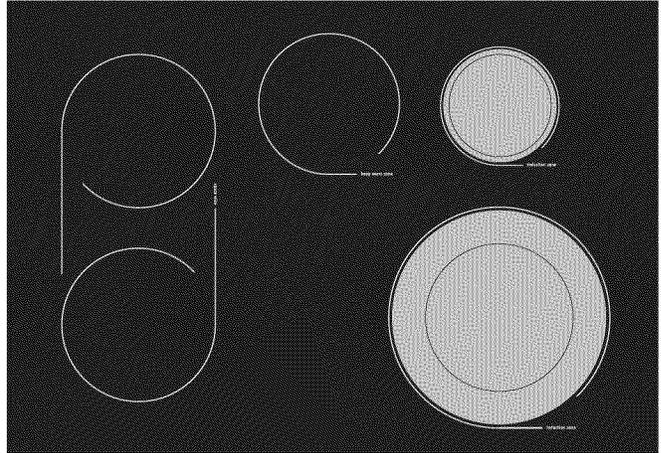
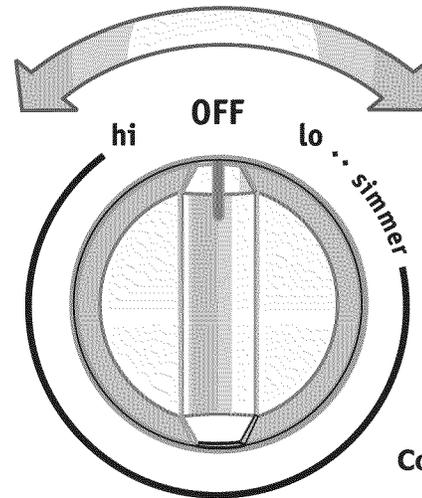
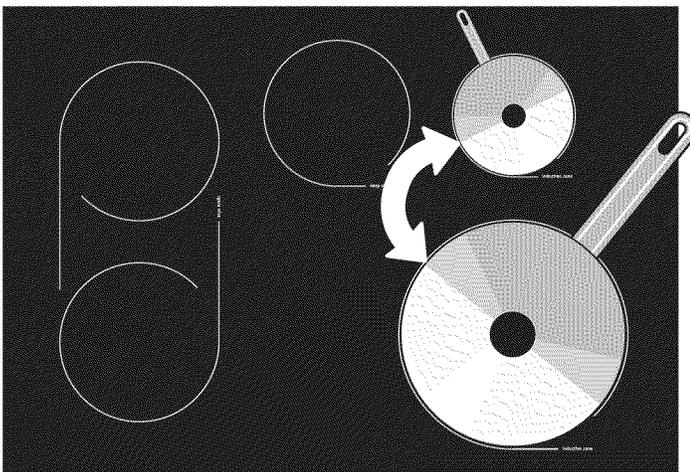

Figure 1
Figure 2
Figure 3
**POWER SHARING TIPS:** Remember to set the power level for the food item you wish to maintain last (See Fig. 3).
2. At the keep warmer zone controls position touch **^** once to turn ON the power level for HI (Fig. 1) or **v** to turn ON the power level for LO (Fig. 3).
3. Each touch **^** or **v** will increase or decrease the power levels. The keep warm zone has 5 power levels from HI (Fig. 1) through MED (Fig. 2) to LO (Fig. 3). The power level may be adjusted at any time while the keep warm zone is ON.